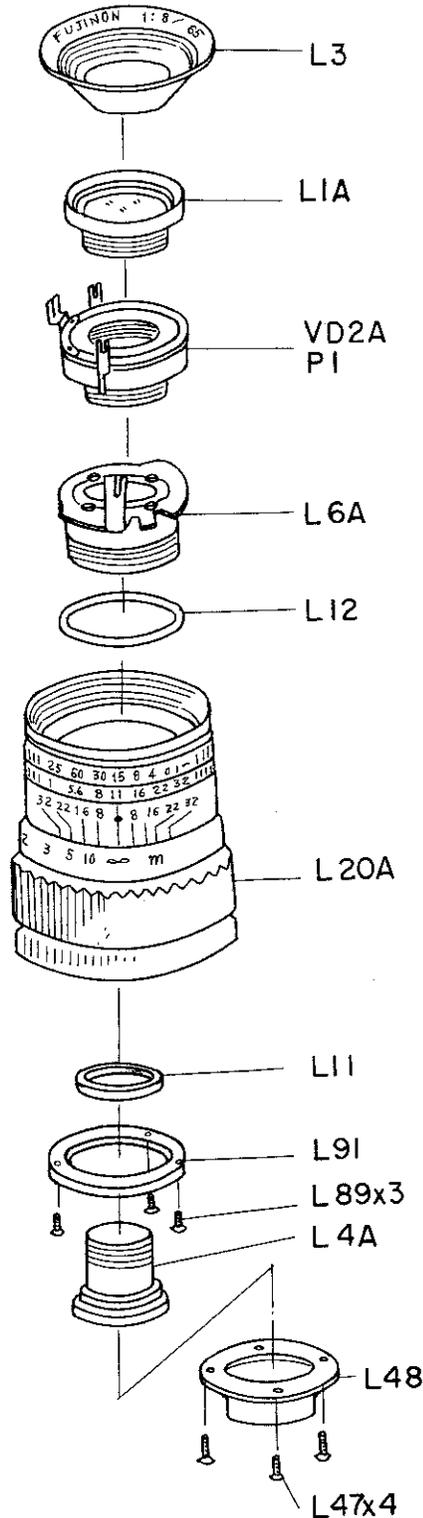

Fig. 1
A. Remove lens plate (L3) with the Tool (L3-TA1) Fig. 1
B. Remove four screws (L47) and remove the lens barrel (L48). Next, remove the front lens group (L1A) with the Tool (L1-TA1) and rear lens group (L4A) with Tool (L4-TA1). Fig. 1
D. Remove the shutter fastening ring (L11) with the Tool (L11-TA1), and remove the shutter from the lens barrel carefully so that the shutter speed lever (L18) is not damaged. Fig. 1
A. Remove the ring installation screws (L89, 4 each), and remove the ring (L91), adjust washer (L12), and shutter installation seat (L7A) from the lens barrel. Fig. 1